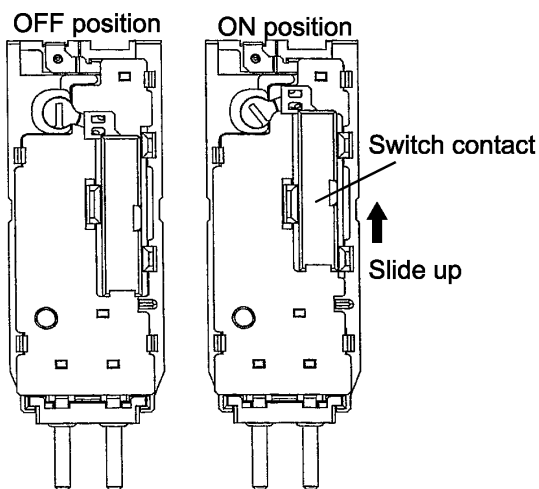

Fig. 1
<p>&lt;CHECK SWITCH.&gt; Replace the battery. If there is continuity between (1) and (2) with switching ON, the switch is normal. (See Fig. 1.)</p>	NO → Replace the switch terminal plate.